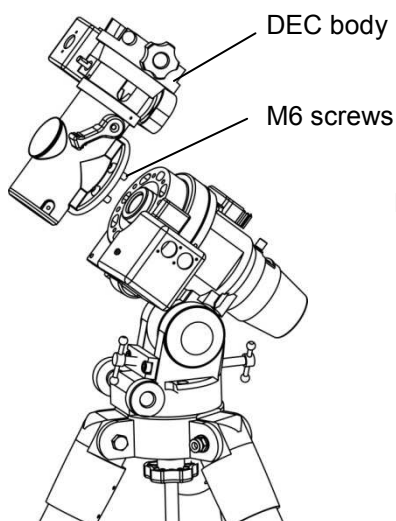

Fig 9
1.7 Installing optional accessories to turn the EQM-35 PRO into the EQM-35 PRO light photographic traveling version (fig 9, 10, 11 and 12)